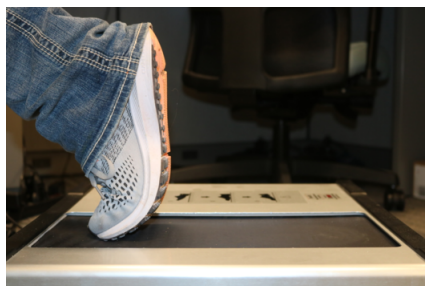

Figure 5: Technician stepping off of the scanner
8. Carefully, have the technician step off of the scanner. Peel the foot forward until only the tip of the toe is making contact with the platform. At this point, lift the foot straight up, off of the scanner (Figure 5).